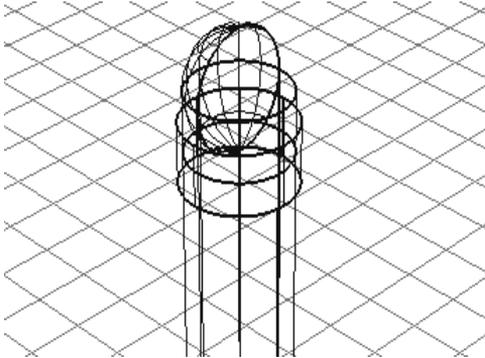

Figure 2-120 Model after creating the hemispherical top part of the eraser
4. Enter **0, 0, 1000** in the promptline and press ENTER; the hemispherical top part is created in the window, as shown in Figure 2-120.